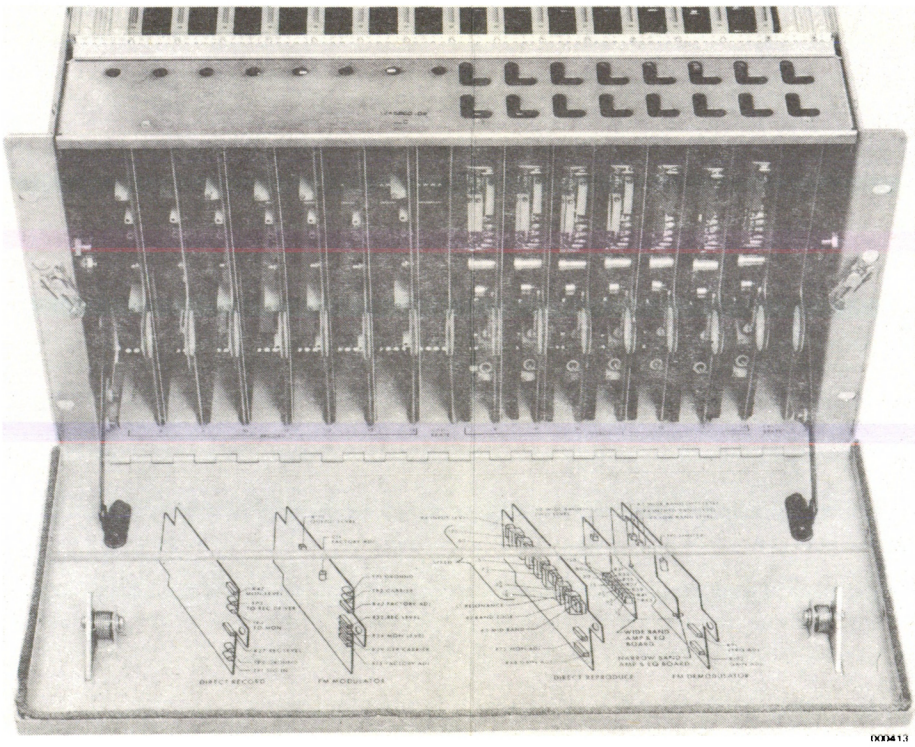

Figure 3-10. Signal Electronics Tray - Showing Signal Electronics Adjustment Callouts
- d. Adjust the REC (DEVIATION) LEVEL control on the FM modulator until the output of the demodulator is at the desired full scale level (STANDARD OUTPUT LEVEL). See Figure 3-10.
- d. Adjust the OUTPUT LEVEL control on the reproduce module to produce the desired output level (the STANDARD OUTPUT LEVEL). See Figure 3-10.